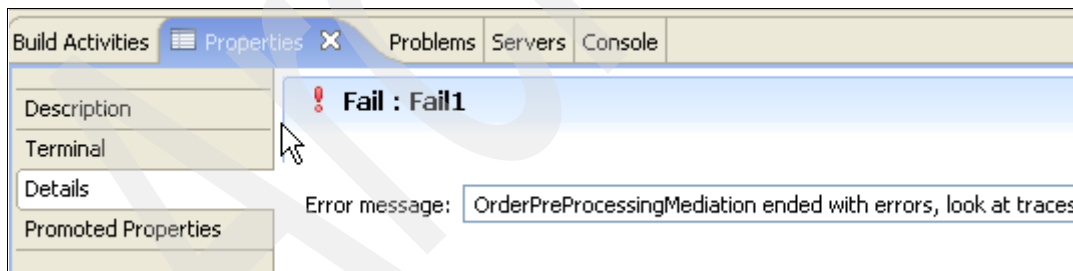

Figure 4-51 Configuring a fail primitive
2. Use the Details section of the Properties view to enter an error message, as shown in Figure 4-51.